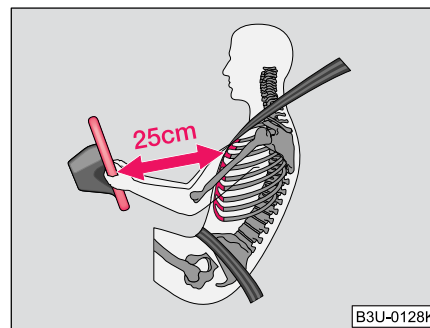

Fig. 102 Safe distance to steering wheel
- For the driver and front passenger it is important to maintain a distance of at least 25 cm from the steering wheel or dash panel ⇒ page 123, fig. 102. Not maintaining this minimum distance will mean that the airbag system will not be able to properly protect you - hazard! The front seats and the head restraints must always also be correctly adjusted to match the body size of the occupant.